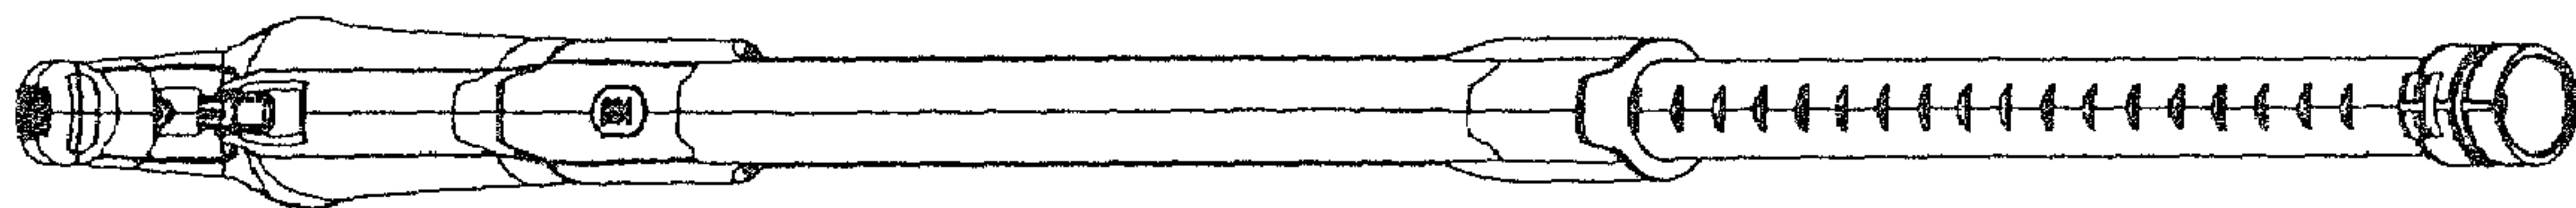

FIG. 7
- FIG. 7 is a front view in an open position;